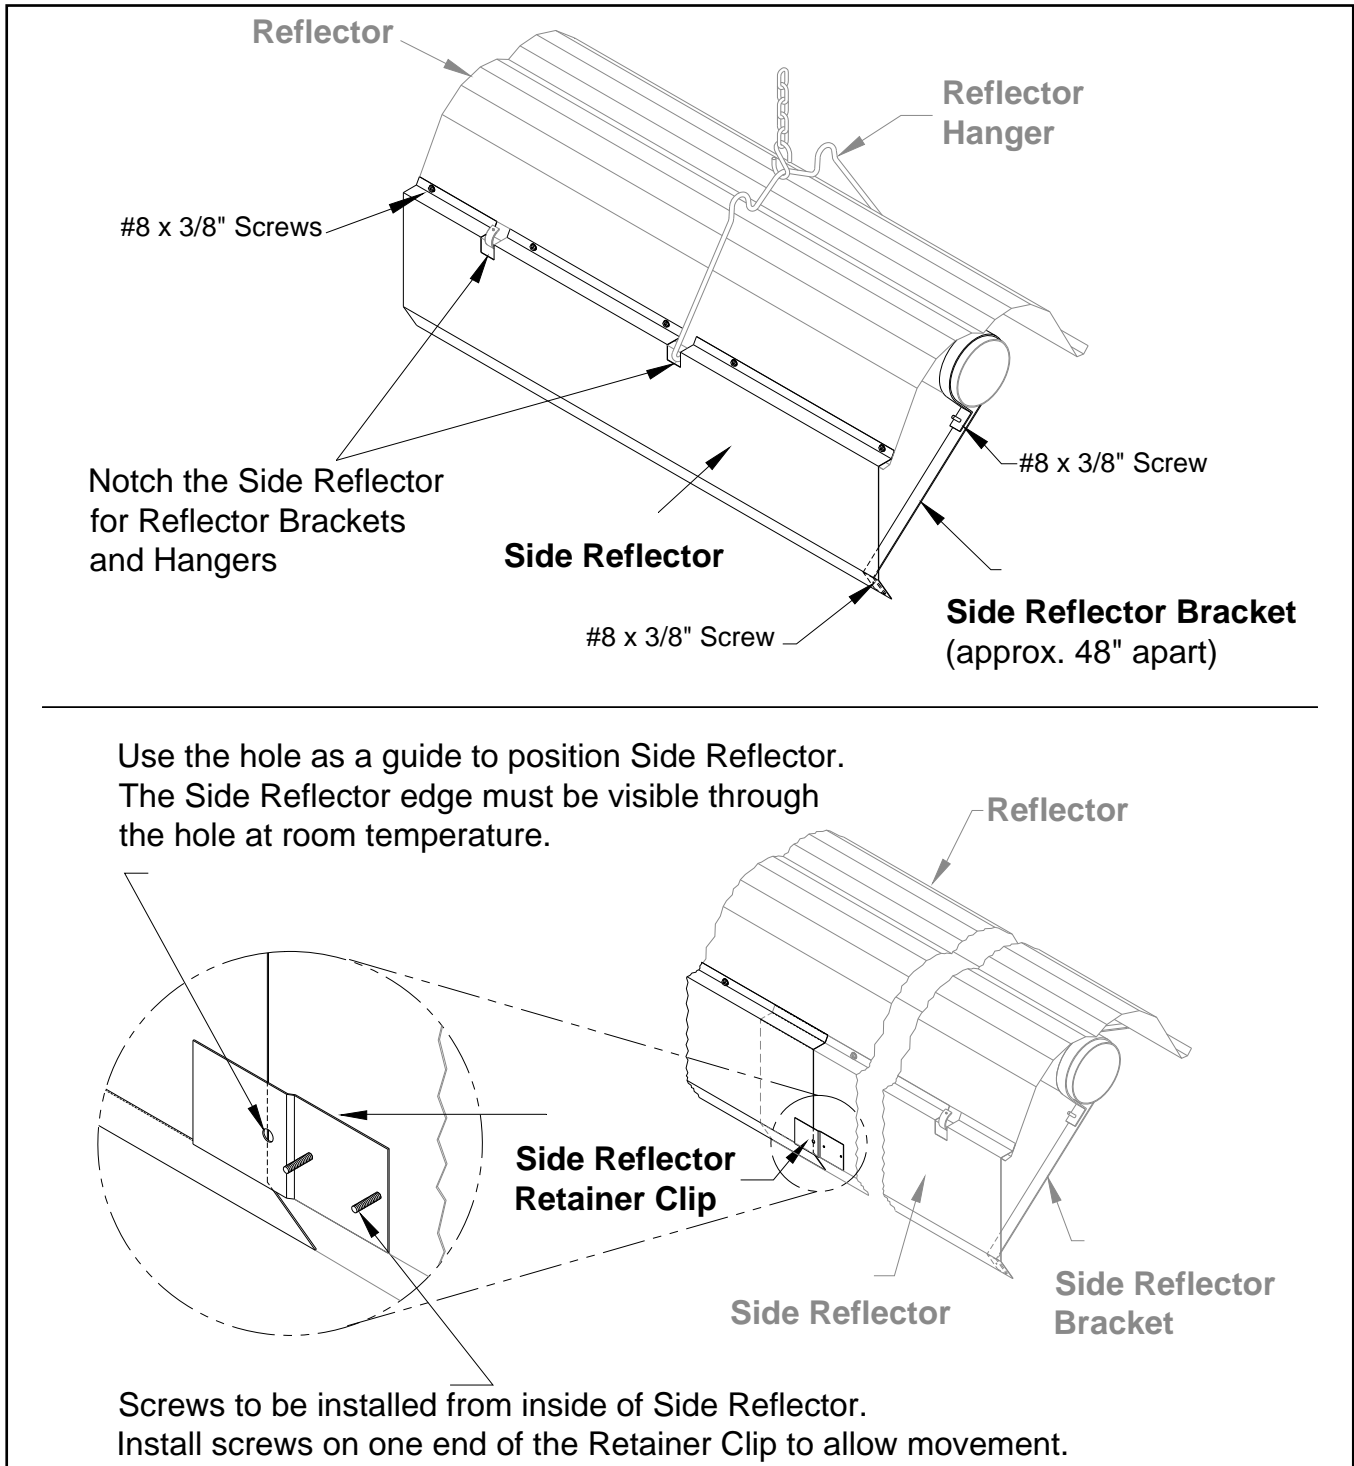
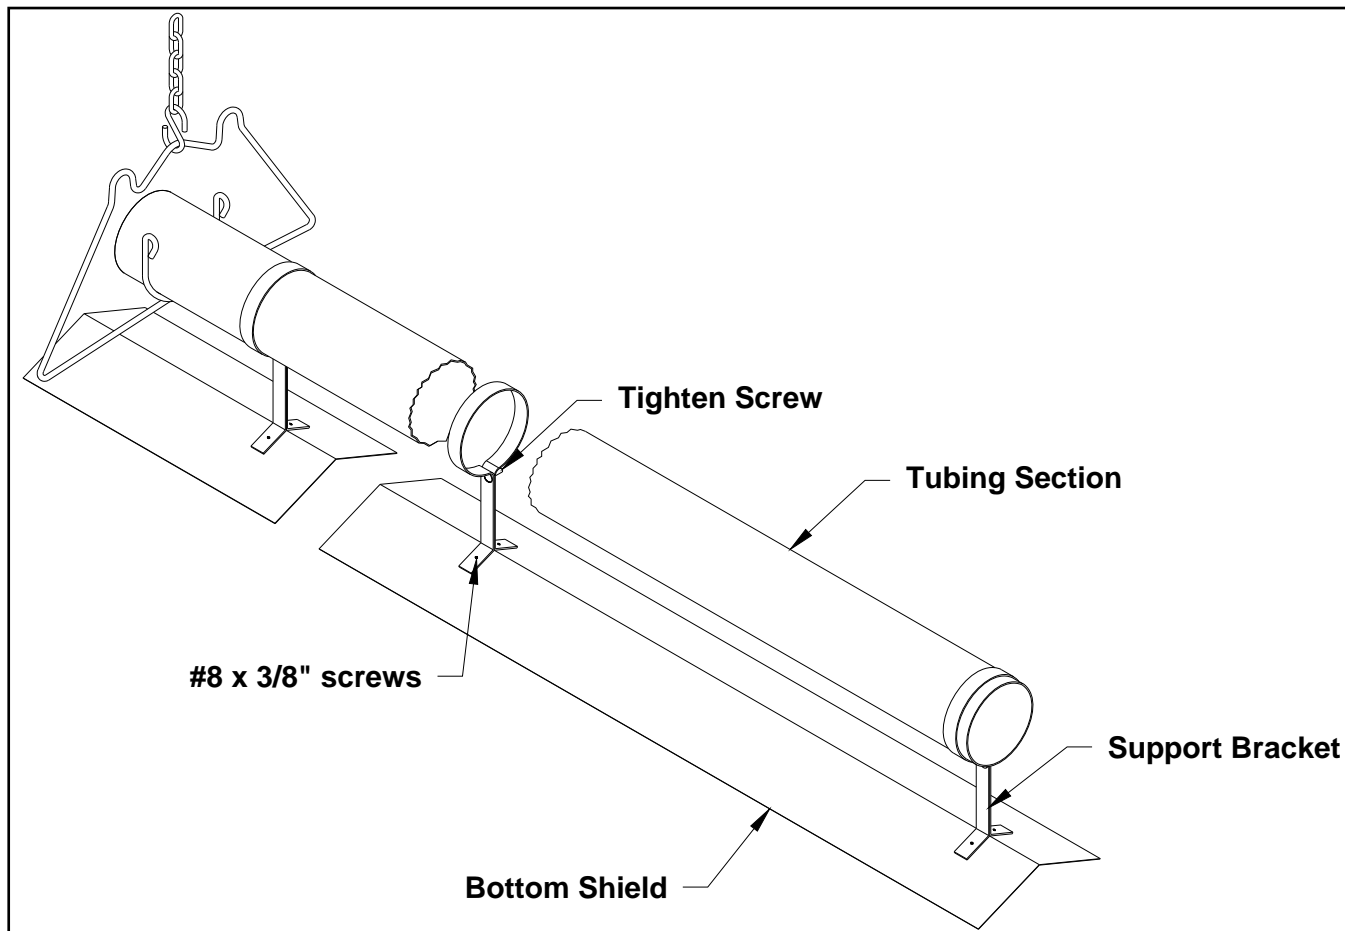

Figure 20: Side Shield Overlap
Figure 21: Bottom Shield Installation
- If used, install side shields (reflectors) and/or bottom shield as required. (Figure 20 and Figure 21).
- Side shields are 124" long. Fasten one side shield per reflector with #8 x 3/8" screws. Use three side shield brackets per side shield. Space about 48" apart. (Figure 20).
- Bottom shields need not overlap. Each 5' section is held with two support brackets (Figure 21).